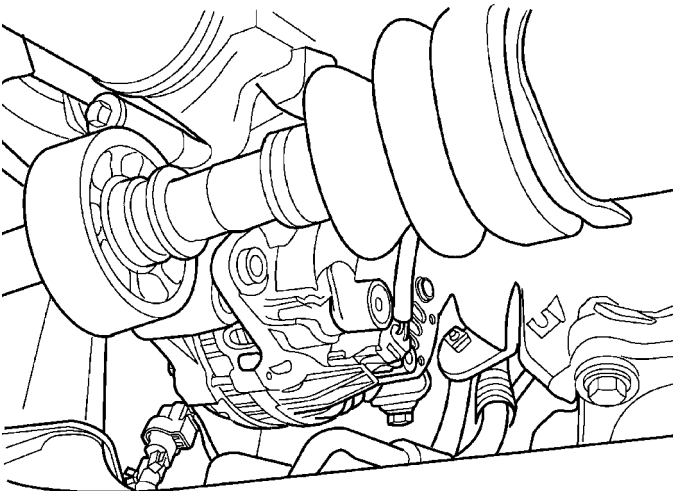

Fig. 5 Lower Mounting Bolt
(2) Without removing radiator pressure cap and with system not under pressure, turn draincock counterclockwise to open (Fig. 5).
(3) The coolant recovery/reserve container should empty first, then remove the pressure cap.
- (5) Loosen the lower mounting bolt.
(6) Remove the generator drive belt.
(7) Disconnect the generator field circuit wiring connector. Push the **RED** locking tab to release.
(8) Remove the B+ terminal nut and wire.
(9) Remove the upper and lower mounting bolt (Fig. 5) and move generator off of pivot bracket.
(10) Remove pivot bracket.